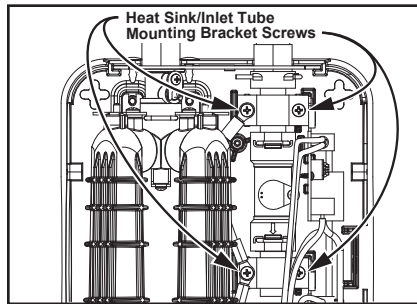

Figure 37 - Heat-sink/inlet tube mounting bracket screws.
- 7** Locate the four mounting screws securing the heat-sink/inlet tube mounting brackets. Use a Phillips screwdriver to remove the four screws and place the brackets to the side. The assembly can now move freely. See Figure 37.
- 4** Secure the inlet in place with the heat-sink/inlet tube brackets. Hand tighten the Phillips screws in place, DO NOT over tighten. See Figure 37.